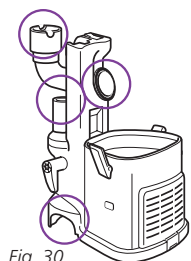

Fig. 30
- Remove the dust cup and extension wand and separate the detachable canister from the motorized floor brush. Look in all 4 openings for any blockages. (Fig. 30)